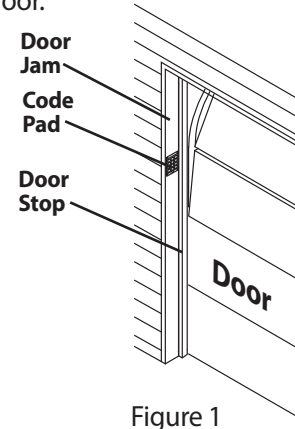
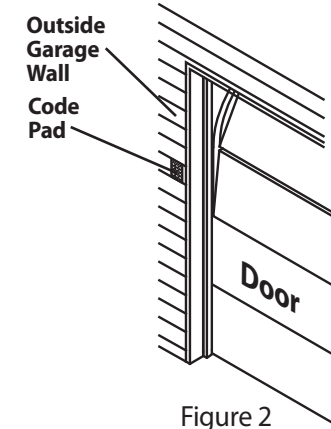

Figure 1
Figure 2
1. Select a convenient location for the code pad on the outside door jamb or wall. BE CERTAIN THE LOCATION IS OUT OF THE AREA OR PATH OF THE MOVING GARAGE DOOR AND SUPPORTING HARDWARE. Figure 1 illustrates the code pad installed on the door jam. A wall installation is illustrated in Figure 2. IMPORTANT: Do not allow children to play games with the door.